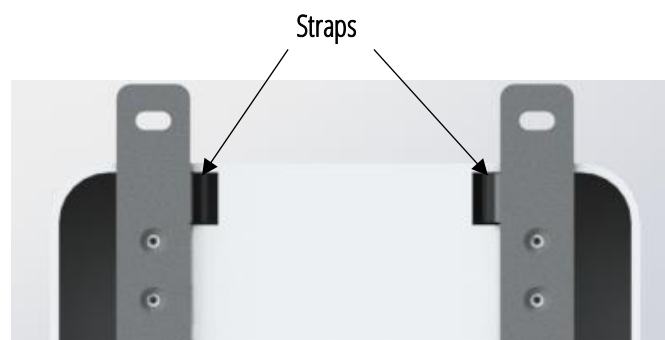

Figure 1 Arrangement of the mounting plates
1. The enclosed mounting plates (left/right) are to be mounted on the back of the wallbox with four self-tapping screws each. Make sure that the beveled tabs are oriented towards the center of the housing (cf. Figure 1).